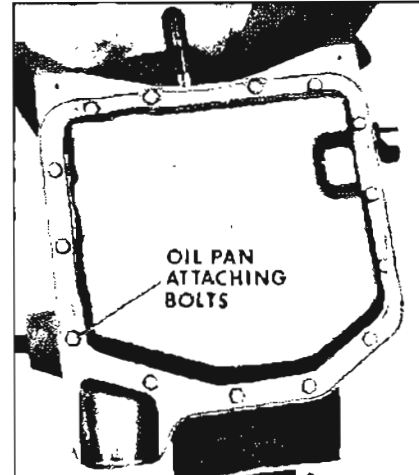

Figure 5-102
3. Remove fourteen (14) oil pan attaching bolts using a 1/2" socket. See Figure 5-102.